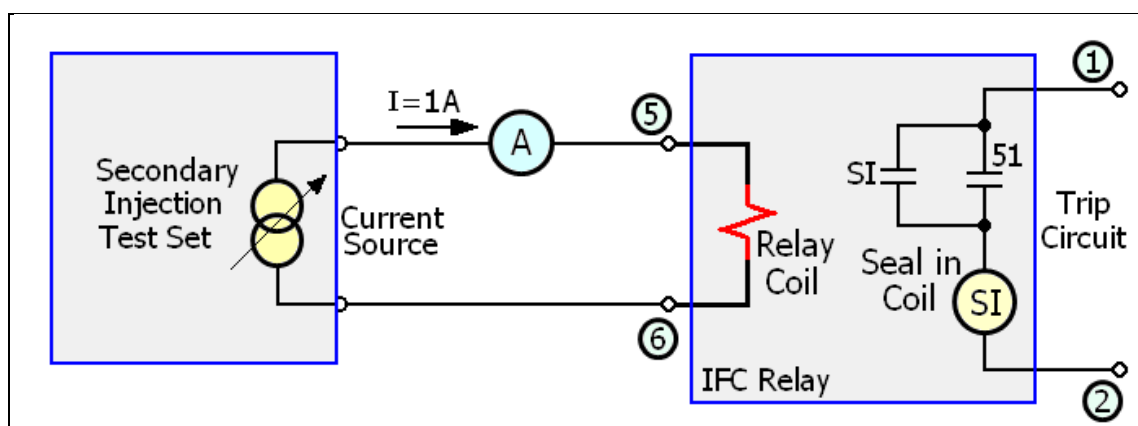

Fig. 2-1
3. Connect the circuit shown in Fig. 2-1.